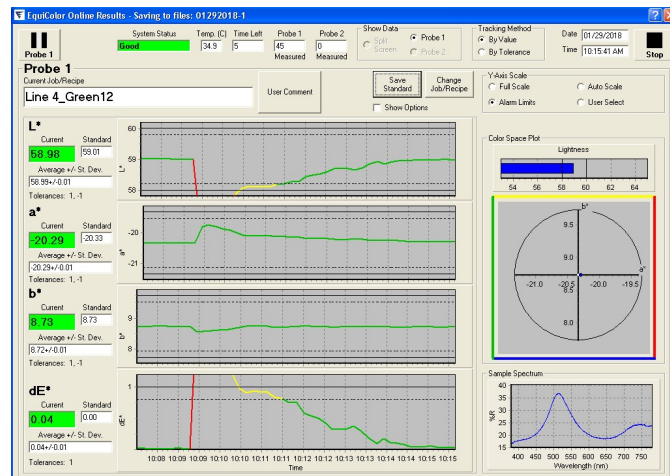

FIG. 3 EQUICOLOR SOFTWARE
Illumination of the plastic melt through the sapphire window is achieved by six (6) circumferentially-positioned glass fibers, which convey the light of a xenon flash lamp. The reflection from the illuminated surface is detected by one center-positioned optical fiber. The spectrophotometer then interprets the reflected light. Color values such as  $L^*$ ,  $a^*$ ,  $b^*$ , and others are calculated from this spectral curve and displayed as trend charts in EquiColor (Fig. 3).